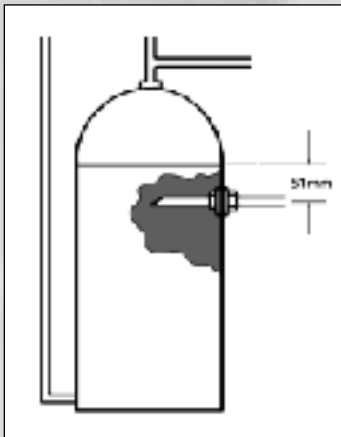

Fig.2. Cylinder Flange
4. If this is not possible, a direct connection must be made from the hot water cylinder with a cylinder flange, Fig.2.